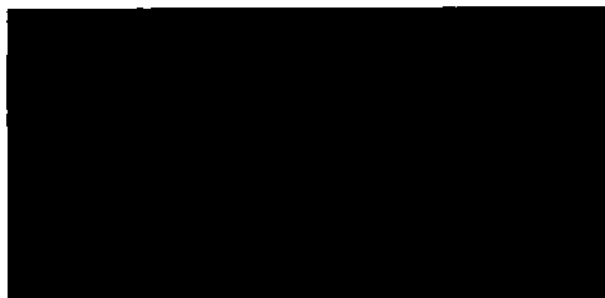

Figure 40. Configure Icons
2. Navigate to **CONFIGURE ICONS** and press **Select** to select it. The **CONFIGURE ICONS** screen opens (Figure 40). Each icon listed can be configured to **YES** (display) or **NO** (do not display).